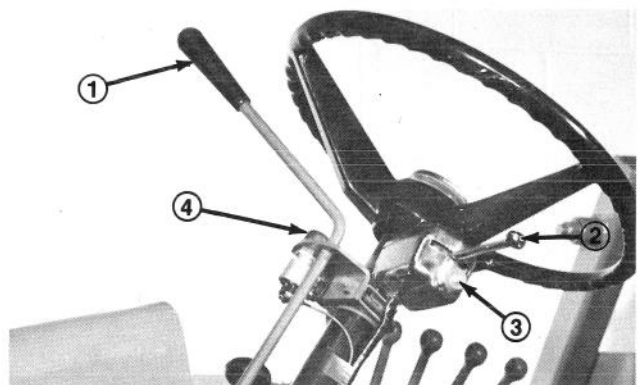

Figure 29
HAND THROTTLE – OPTIONAL KIT (Gasoline) (Fig. 29)
C. Turn Signal Controller (Fig. 29).
D. Emergency Flasher Control (Fig. 29).